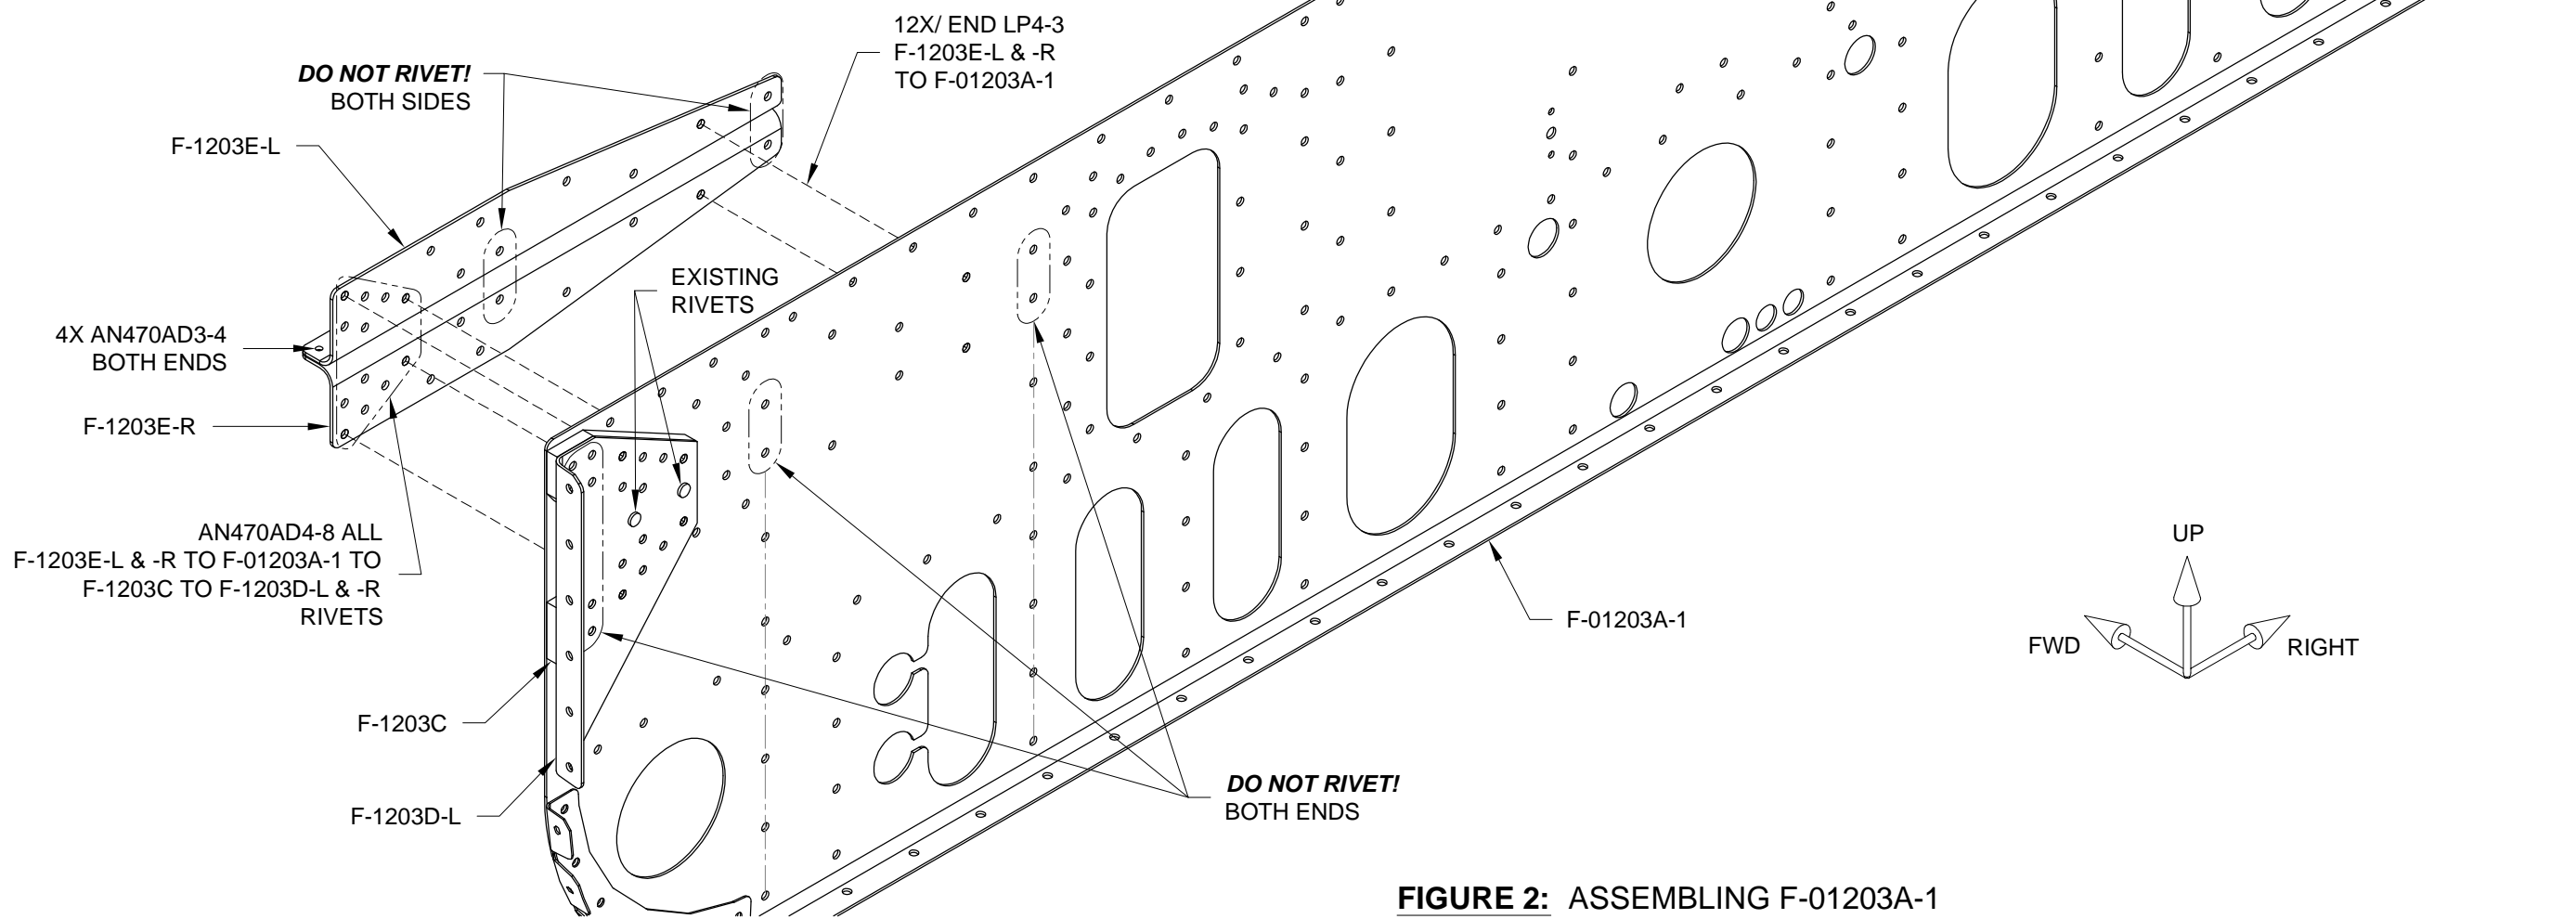

FIGURE 2: ASSEMBLING F-01203A-1
Step 2: Rivet F-1203E-L & -R to both ends of F-01203A-1, to F-1203C, and F-1203D-L & -R using the rivets called out in Figure 2. As indicated in the figure, do not install rivets in the four holes in both sets of F-1203E-L & -R, or in the eight holes in F-1203D-L outbd of F-1203E-L & -R.
Step 3: Rivet the flanges of the F-1203E-L & -R to each other using the rivets called out in Figure 2. It is acceptable to squeeze these rivets with two flush rivet sets.